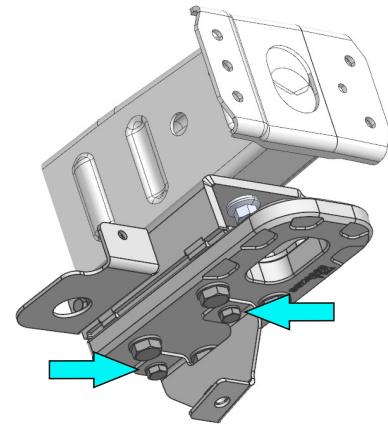

Fig.8
8. Install left bash plate bracket (item M) on recovery point (item H) **for Ranger Raptor**. Fix using bolts M8x20, washers 8 (item B, E) (fig.8).